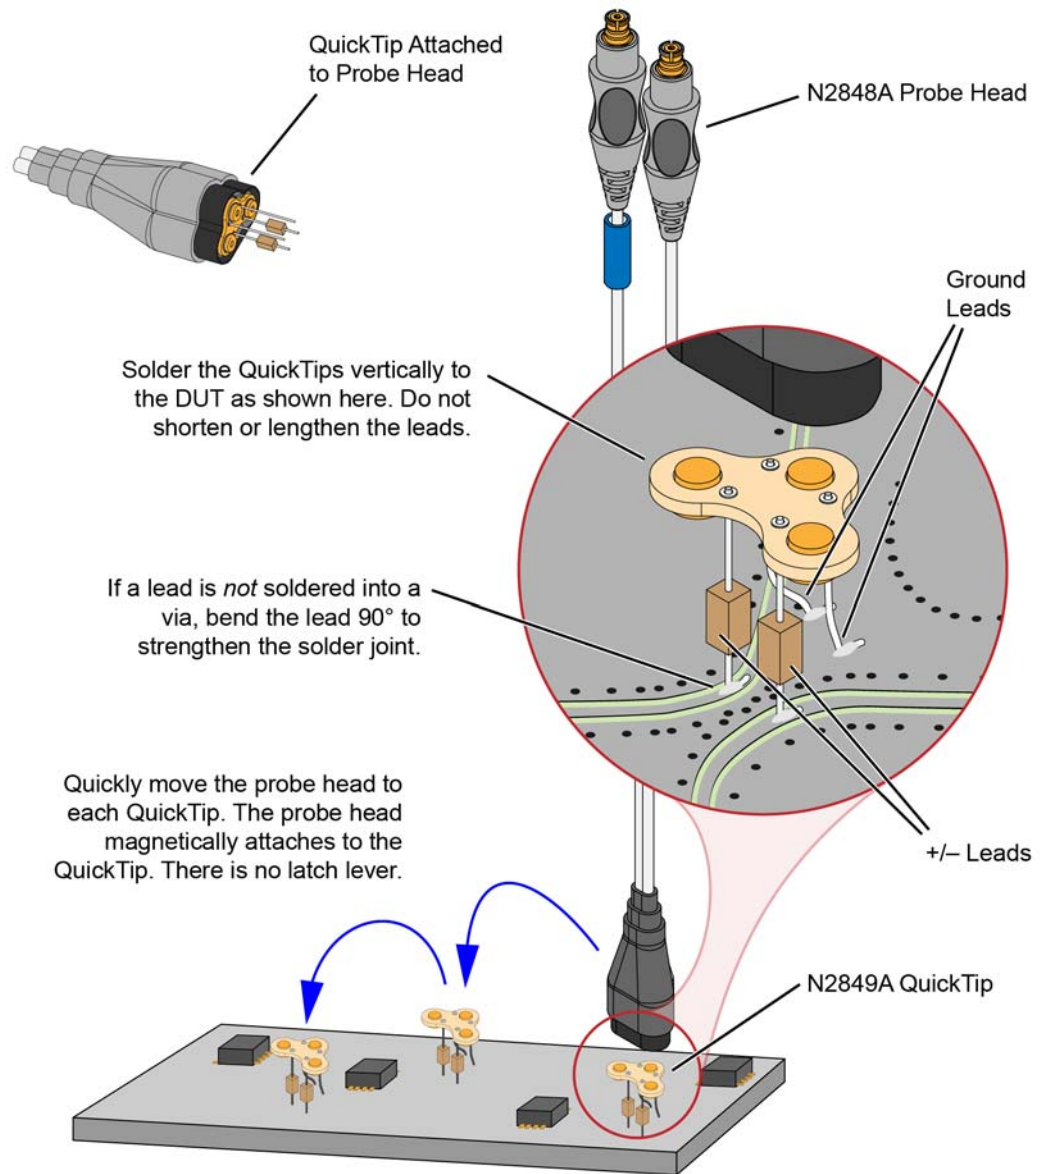

Figure 53 Probing with the N2848A Probe Head and QuickTip
Permanently solder any number of QuickTips to your DUT as shown in Figure 53 on page 65. Because the probe head is magnetically connected (instead of mechanically connected) to the QuickTip, you can effortlessly connect and disconnect to each QuickTip. For best performance, position the QuickTip vertically on the DUT. Because this is an InfiniiMode compatible head, the tip has two signal leads and two ground leads. To learn about InfiniiMode, refer to “To Use
- Orient the QuickTip vertically as shown in Figure 53 on page 65.